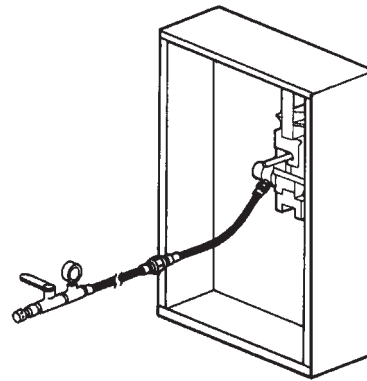

FIGURE 9
- ▶ For First Tank: Disconnect expellant gas pipe or hose from tank. Connect regulator test kit (Part No. 56972) to hose. See Figure 9.